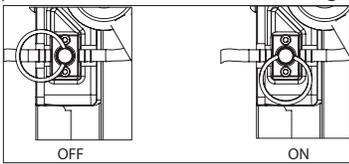

Figure 4
6. Turn on coolant valve, located on left side of the frame. **(Figure 4)** Lower Slugger® cutter to surface of material to be cut. **NOTE:** Coolant flow starts when pilot pin contacts work surface. Coolant flow can be stopped by lifting pilot pin off work surface or moving the valve to the "off" position.